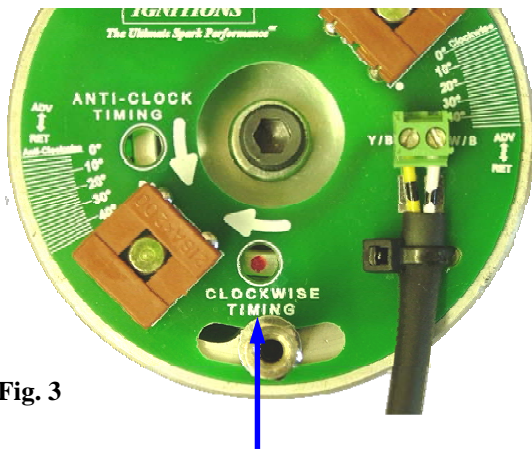

Fig. 3
11. Slacken the centre bolt (¼" UNF) using a 3/16" hex key and position the rotor until one of the red indicator marks can be seen through the appropriate static timing hole in the trigger plate (clockwise for most machines), with the plate positioned midway on its adjustment slots. **See figs. 3/4 on page 9.** [The magnetic rotor centre thread (metric M8) is provided for attaching a puller, if the rotor should need to be removed for engine servicing, etc.]